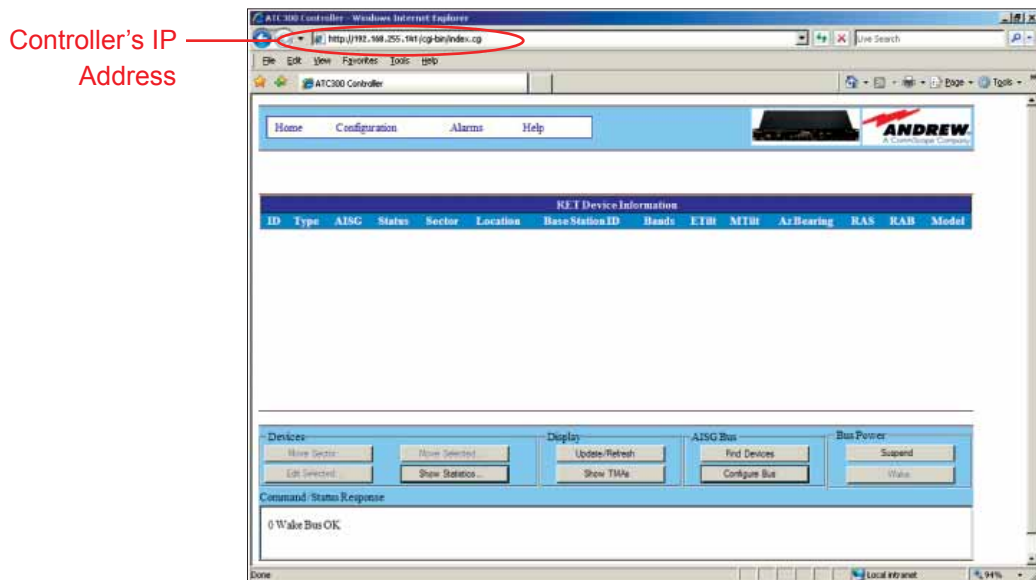

Figure 2-4. ATC300-1000 Controller Main Interface Screen.
- Open an Internet browser (Netscape and Mozilla are not supported). See Figure 2-4. If the ATC300-1000 controller interface does not automatically appear in the Internet browser, type in the controller's IP address into the URL address window, and click on Go. The factory default IP address for the ATC300-1000 controller is: 192.168.255.141.